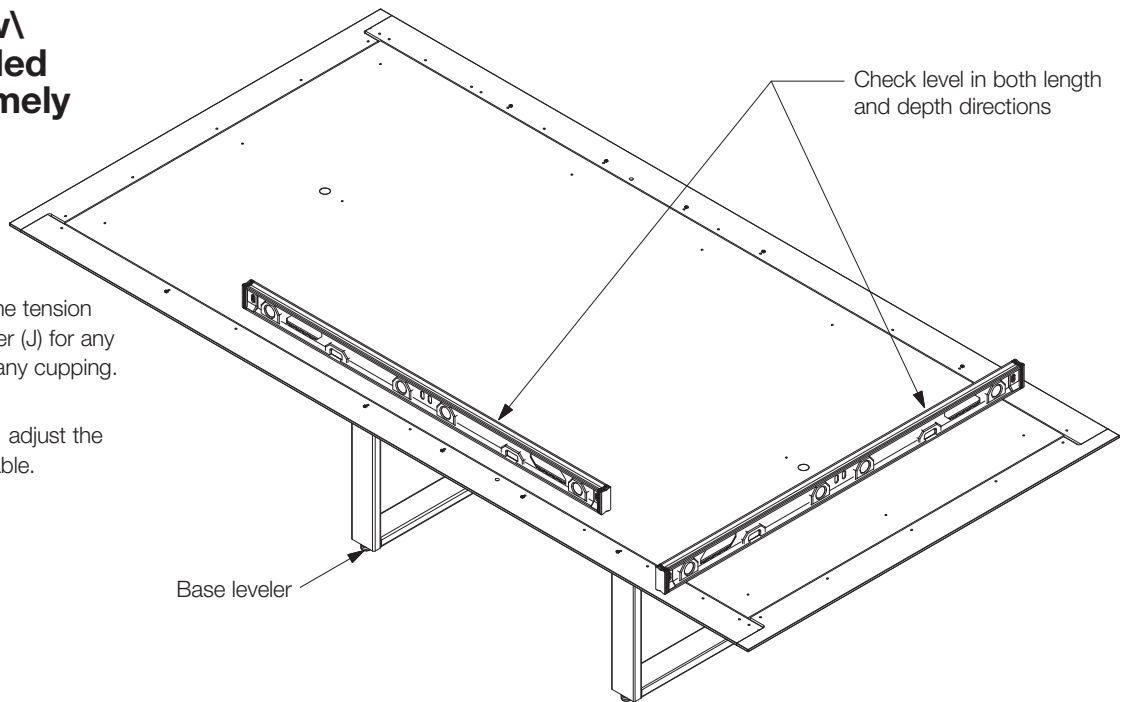

Fig. 05
- 3.1. Using the flat edge of the level as a straight edge, make sure the subtop is perfectly flat by adjusting the tension bracket (H). Tighten fastener (J) for any sag or loosen fastener for any cupping. (See Fig. 05)
- 3.2. Using the level to measure, adjust the base levelers to level the table. (See Fig. 05)